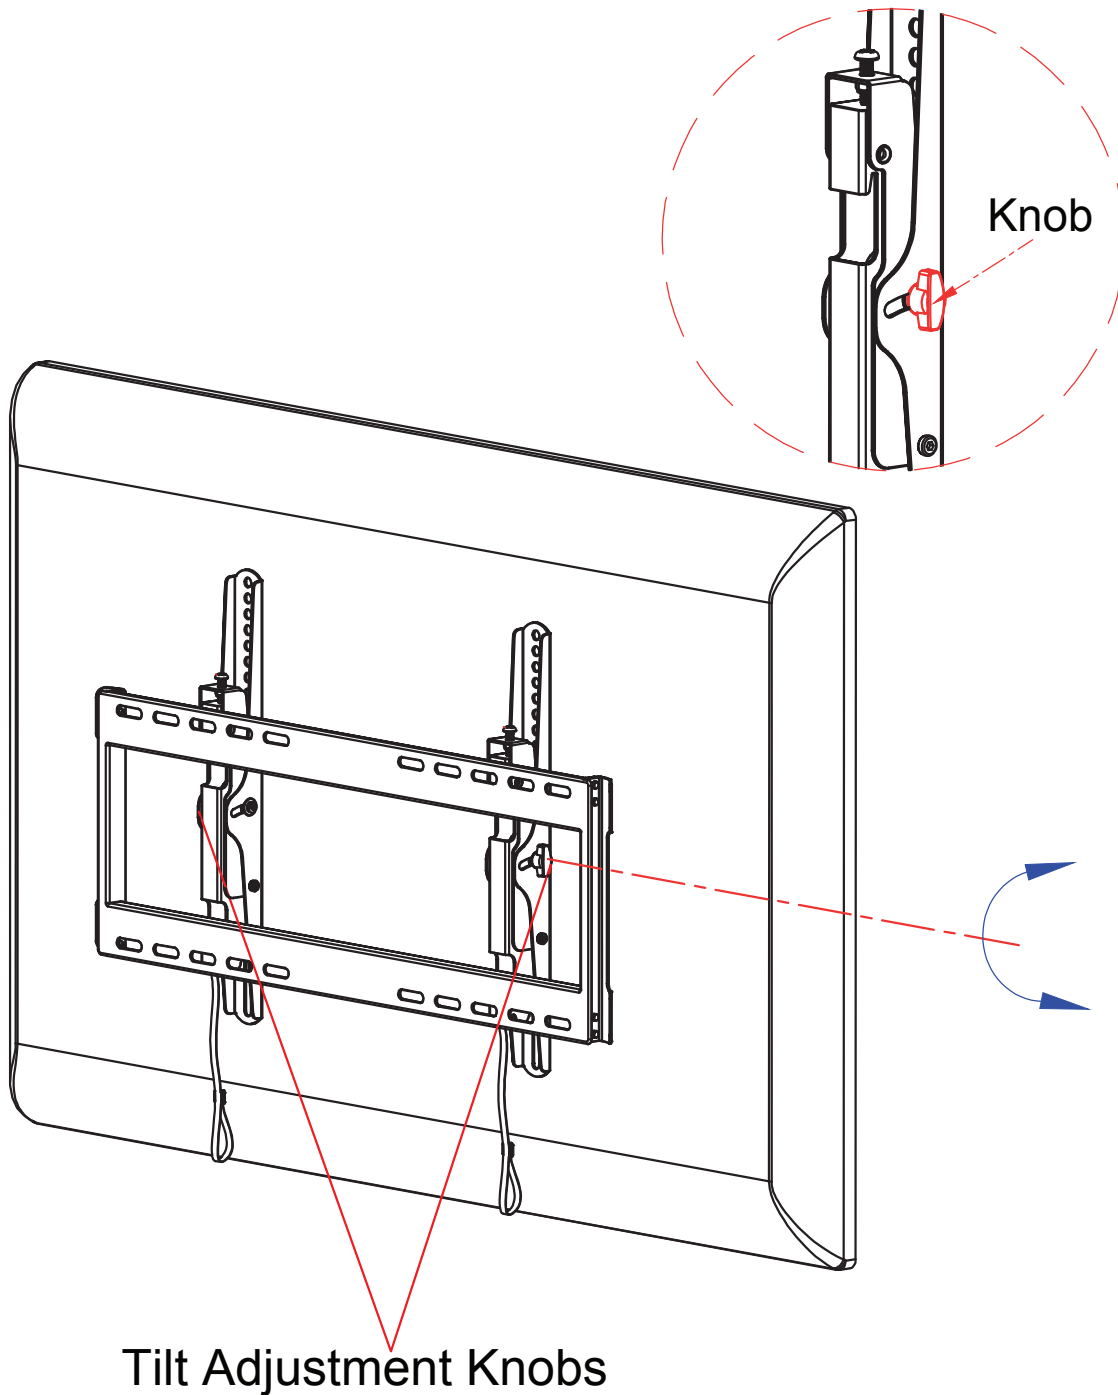

Fig. 5
1. To adjust the angle of tilt, Loosen the knob on the side of each bracket as shown in Fig 5. Only loosen each knob 1/4 turn counter-clockwise at a time until the mount can be tilted. It is suggested to have an additional person help to hold the TV at the desired angle while knobs are re-tightened.